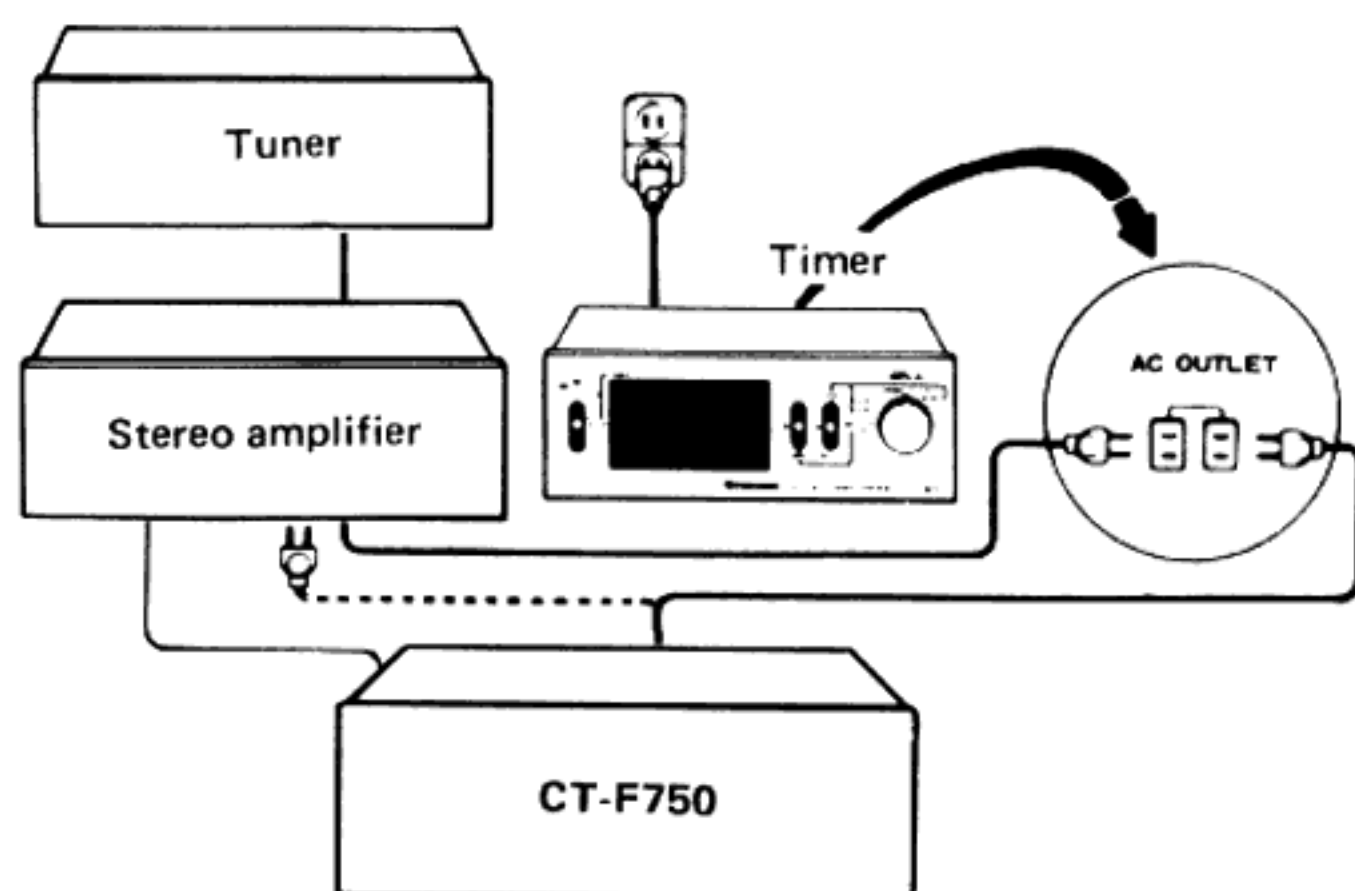

Fig. 3
1. As shown in Fig. 3, connect the CT-F750's power cord to the timer. Also connect the stereo system's power cord of the stereo system (tuner, amplifier) so that the stereo system's ON/OFF functions are controlled by the timer.
4. Follow steps ① to ⑥ in the section on "RECORDING" on page 9 and set the recording level. Rewind the tape back to the point at which you want to start recording.
1. Connect the CT-F750 as shown in Fig. 3, depress the PAUSE lever and then set the deck to the playback mode by following the instruction ① to ⑥ of "PLAYBACK" on page 8.